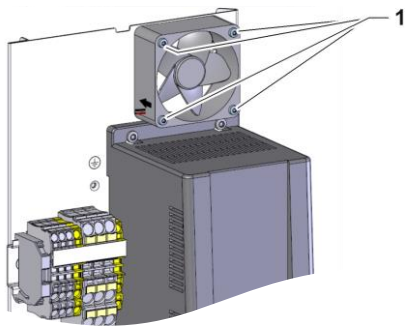

Fig. 1: Fan Electrical part
- Remove 4x fastening screws (Label 1 → Fig. 1).